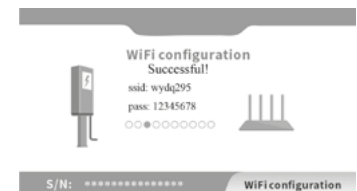

Fig.2 / WiFi configuration successful
6. When all the indicator lights flash once in a second, it indicates that the charging station's Wi-Fi configuration is completed. At the same time, the LCD screen will display „**Successful**“ and the name and password of the WLAN SSID (Fig.2).